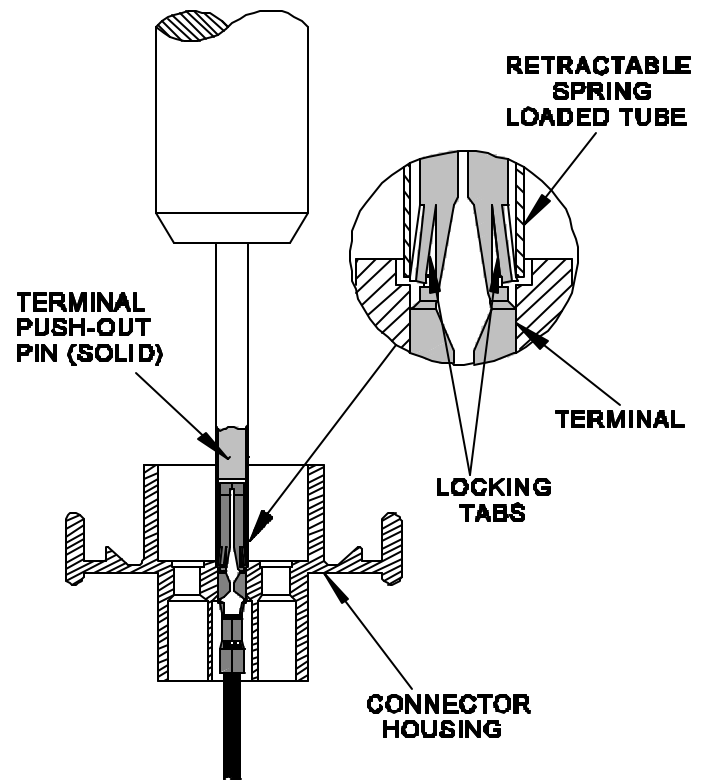

Figure 2
- 2) The Retractable Spring Loaded Tube must depress the Locking Tabs on the terminal before it contacts the Terminal Push out pin. Rotate Extractor Tool while following above instructions (Figure 2).